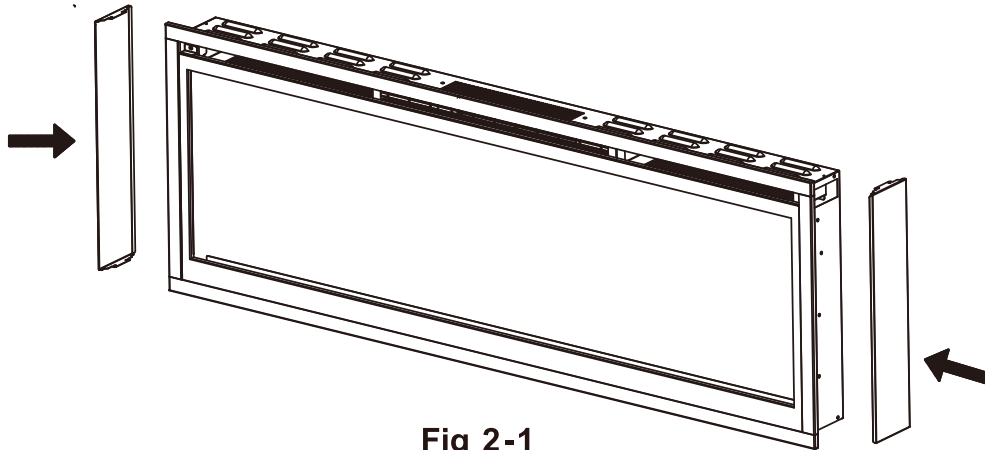

Fig 2-1
Step 1. Attach the side cover panel to side of the fireplace. **Fig 2-1**